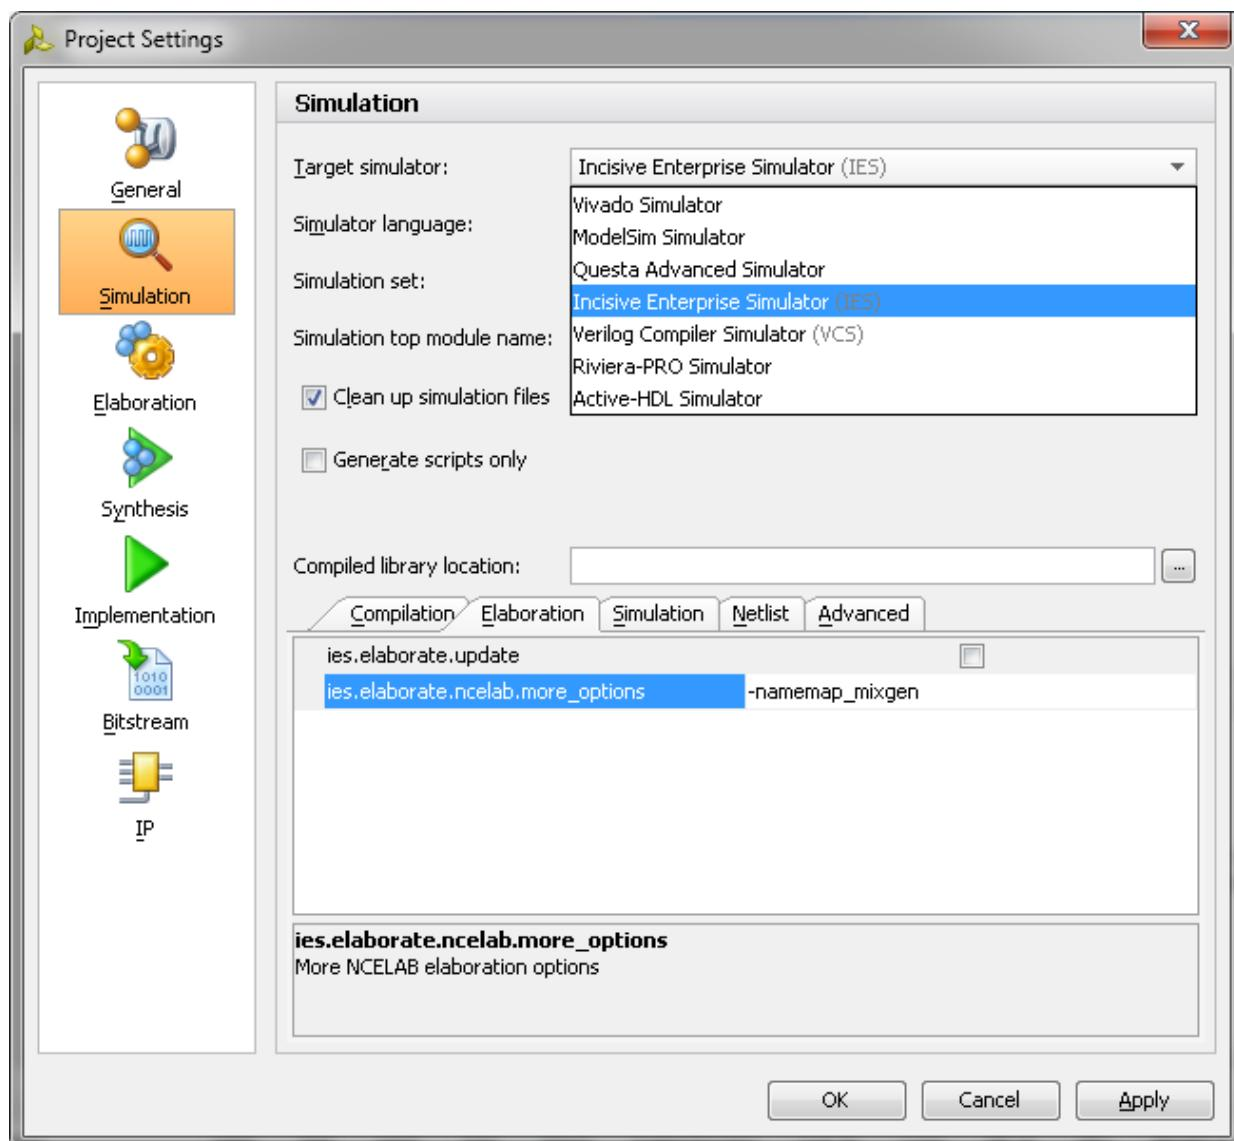

Figure 1-50: Simulation with IES
- d. Under the **Simulation** tab, set the **ies.simulate.runtime** to 1 ms (there are simulation RTL directives which stop the simulation after certain period of time which is less than 1 ms) as shown in Figure 1-50.